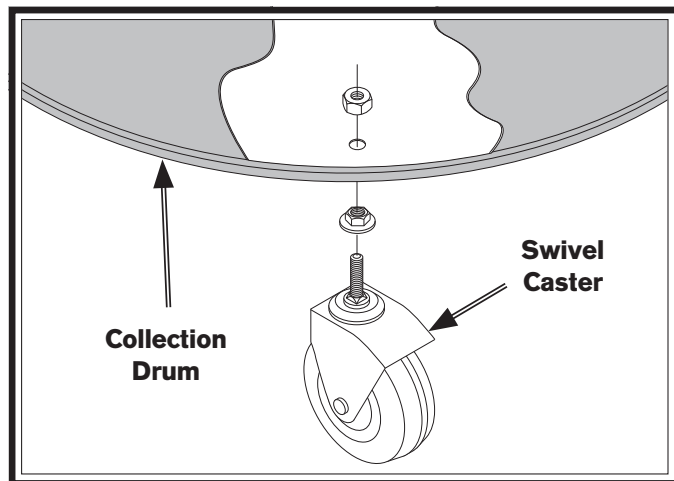

Figure 19. Swivel caster attachment to collection drum.
19. Attach (4) 2" swivel casters to collection drum with (4) $\frac{5}{16}$ "-18 hex nuts (see **Figure 19**).
20. Adjust hex nuts and pre-installed flange nuts (see **Figure 19**) until drum rolls evenly without rocking or wobbling, then tighten nuts to secure casters in place.